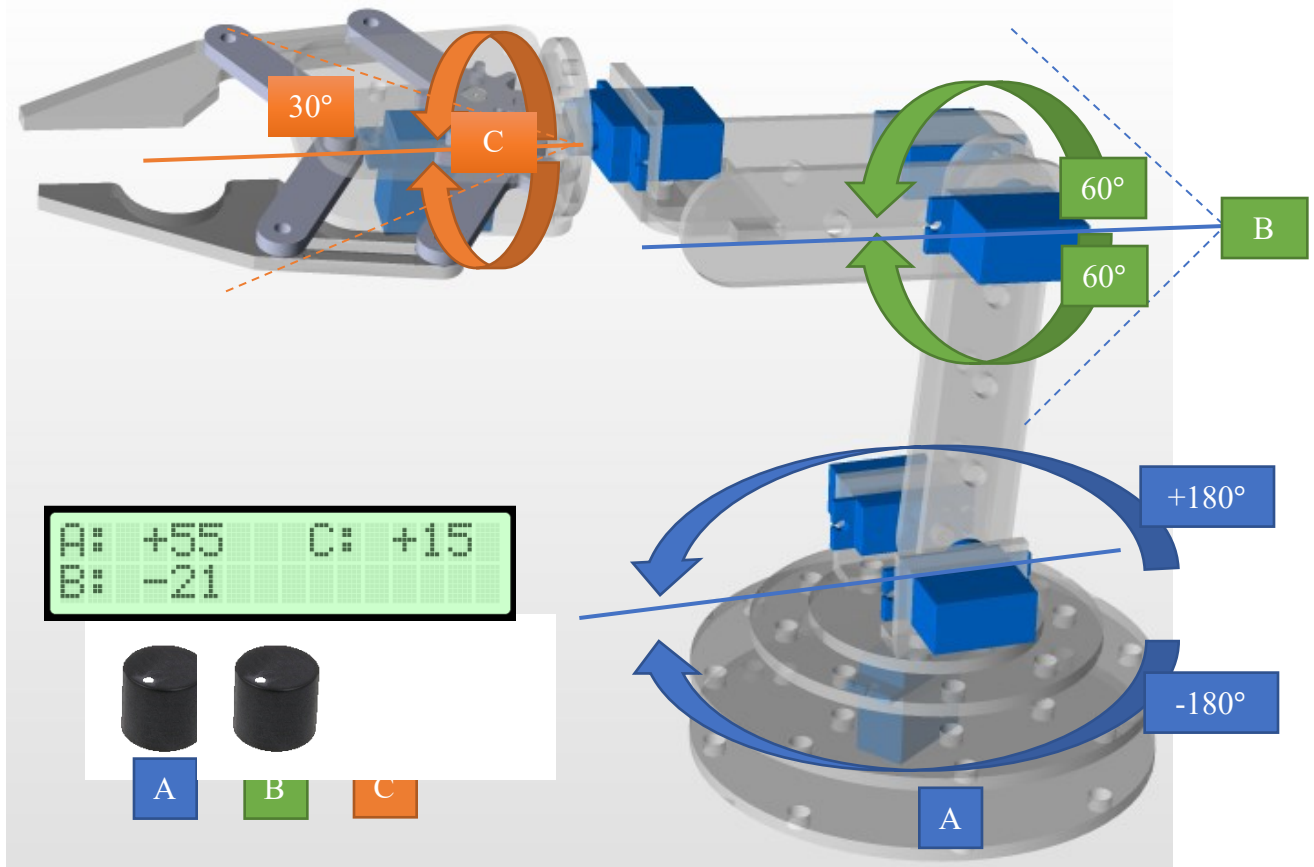

Figure 1- A sample design of the robotic arm
In this project, you will be using a PIC16F877A to build, implement, and control a very simple 3-DOF robotic arm similar to the one shown in Figure 1.
At start-up, motors (A) and (B), must be repositioned at angle 0; and motor (C) must be in a position such that the clamp is closed. Further, an LCD shows the exact angle at which each motor is positioning the robotic arm within its respective expected range. A plus or minus sign precedes the angle for further clarity. The LCD output must match the format shown in Figure 1. You can also add the degree symbol ($^\circ$) if you wish next to the angle. It is readily available in the HD44780 table. **Only show the degrees as integers for simplicity.**